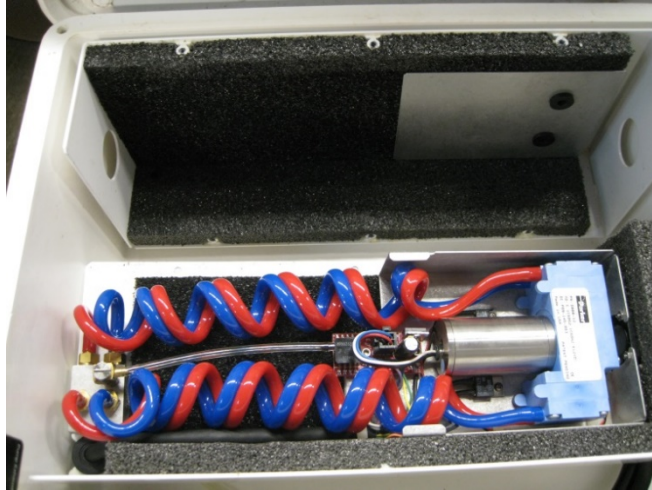

FIGURE H-4. Exposed CPEC200 pump assembly
5. Once the screws are removed, fold back the pump assembly from the shell bottom as shown in FIGURE H-4.